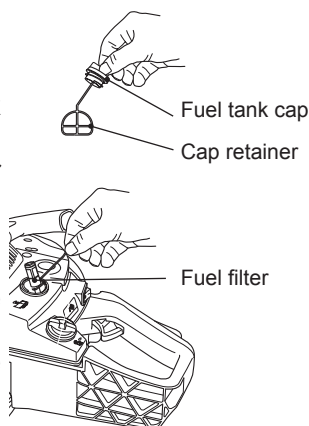

Fig. 57
- > The fuel tank of this product is fitted with a filter located at the free end of the fuel pipe (Fig. 57).